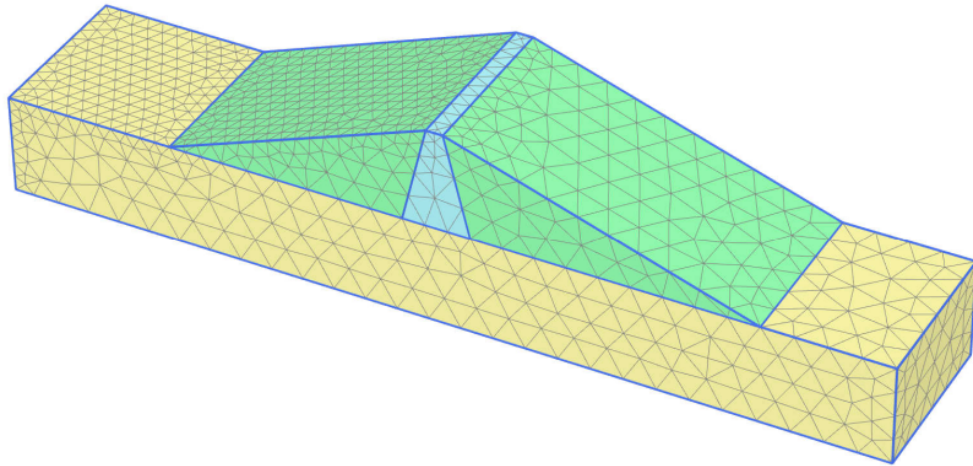

Figure 7-4: The generated mesh
- 4  Click the **View mesh** button in the side toolbar to preview the mesh. The resulting mesh is displayed on Figure 7-4 \(p. 137\):